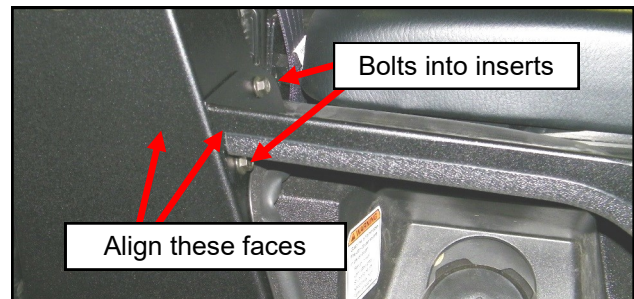

Fig. 14.1 (Fuel filler cover)
**14.1** Per figure 14.1, place the fuel filler cover panel onto the right side B-pillar and insert (2) 1/4-20 bolts into the threaded inserts. Align the outer flange of the fuel filler cover to the side of the B-pillar and tighten the bolts.